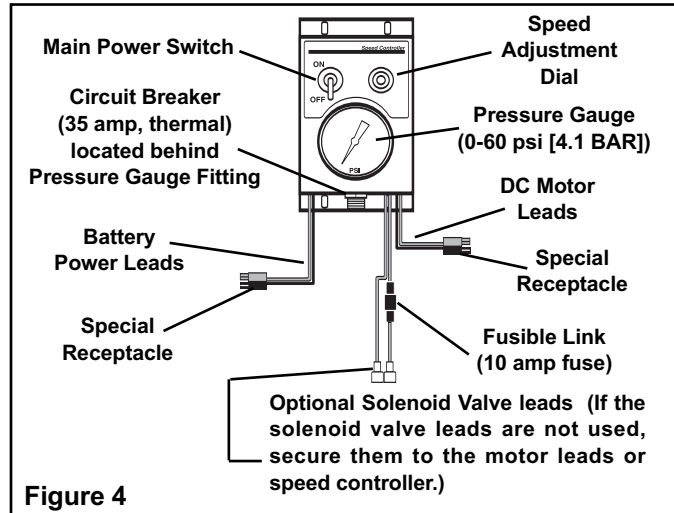

Figure 4
4. Set the controller main power switch to **OFF** (See Figure 4).